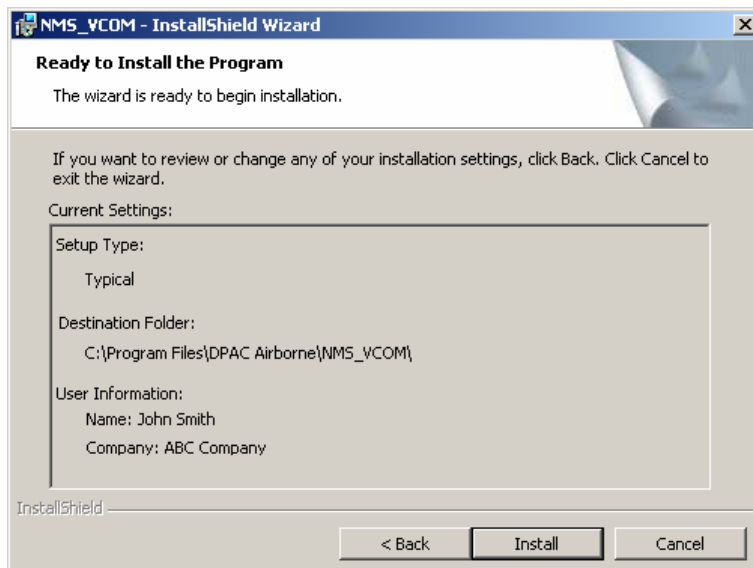

Figure 34. Ready to Install the Program Screen
- Click the **Next** button. The Ready to Install the Program screen appears, showing the selections you made in the previous screens (see Figure 34).